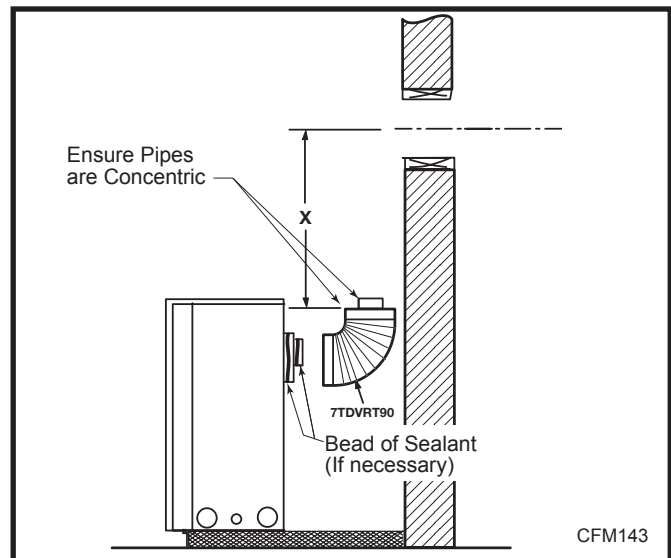

Fig. 26 Apply sealant to inner and outer pipe.
Apply a bead of high temperature sealant to the inner and outer flue collars of the fireplace and using appropriate venting component(s), attach to fireplace with three (3) screws. (Fig. 26) Follow with the installation of the inner and outer elbow. Again secure joints with three (3) sheet metal screws. Wipe off any excess high temperature sealant.